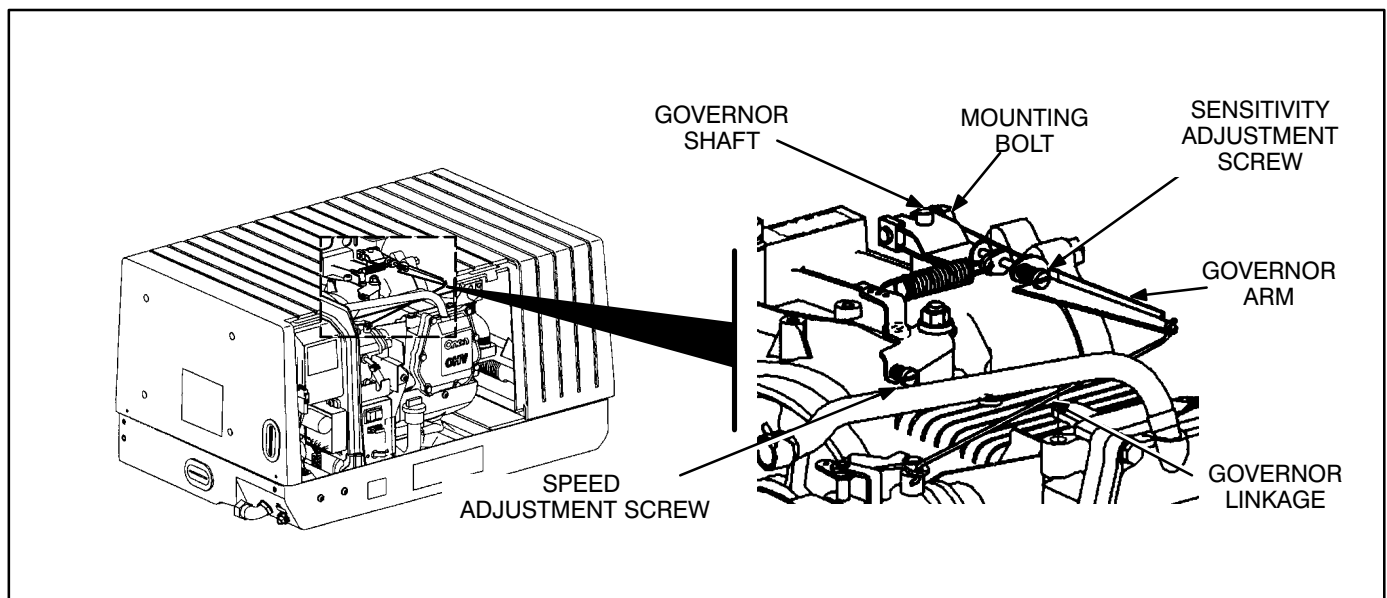

FIGURE 8-5. GOVERNOR ADJUSTMENTS
3. With the genset operating at no-load, turn the speed adjustment screw (Figure 8-5) on the governor linkage to obtain 62 Hz for a 60 Hz genset. Output voltage should be 123-132 VAC. (Adjust a 50 Hz genset to obtain 51.5-52.5 Hz. Output voltage should be 220-231 VAC if rated 220 VAC or 240-252 VAC if rated 240 VAC.) Turn the screw clockwise to increase speed and counterclockwise to decrease speed.